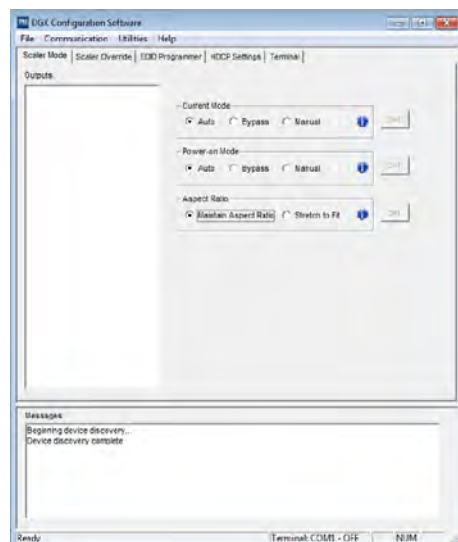

FIG. 177 Scaler Mode tab
1. Select the **Scaler Mode** tab (FIG. 177):